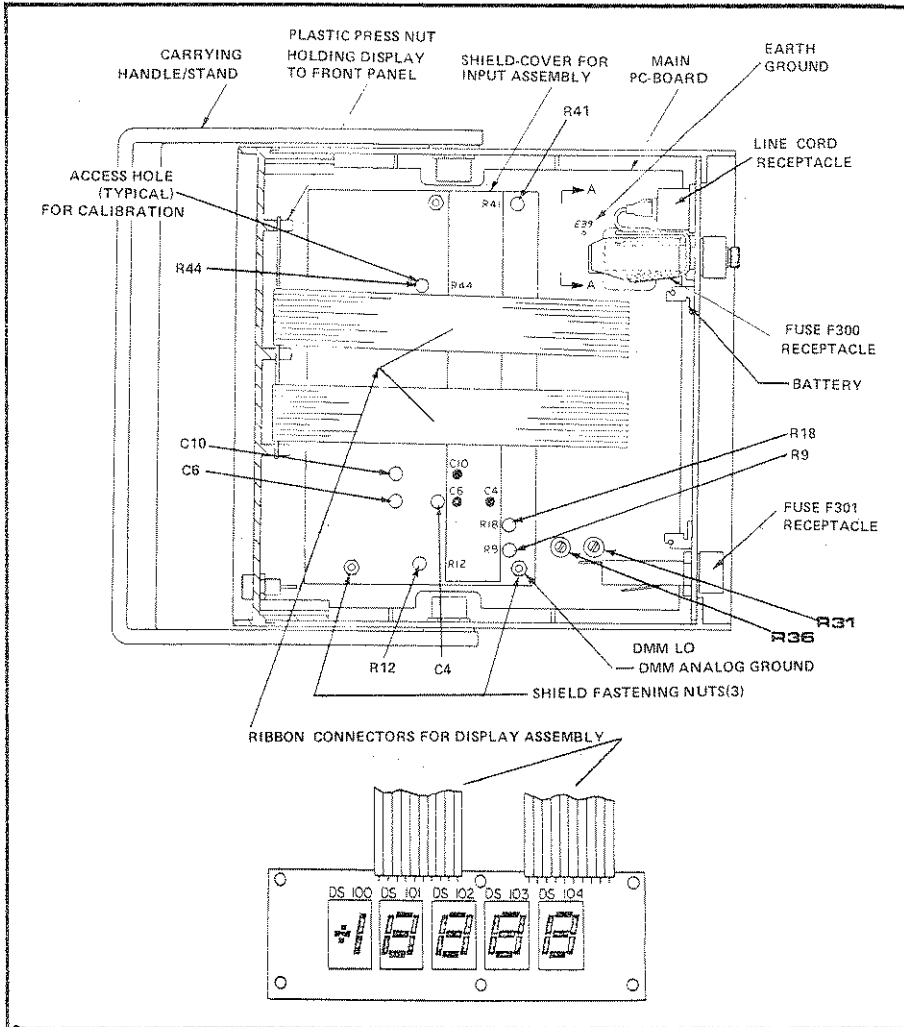

Figure 3-1
- (1) Remove top cover of case as described in paragraph 5.4. This will expose major assemblies as shown in Figure 3-1.
- (2) Remove the plastic push-nuts holding the display flex assembly to the front panel assembly.
- (3) Lift up display assembly. The ribbon connector cable may be bent back to permit access to components beneath the cable without having to unsolder the cable at the main board. This will also allow the display assembly to function during tests.
a. The adjustments to calibrate Model 2480/2480R DMM are accessible through access holes in the shield after removing the top cover of the case. Table 3-1 identifies the adjustments and their function. To remove the cover, remove the two top screws in the back plate, lift the top rearward from the front bezel, and slide out. Figure 3-1 indicates the major assemblies and points out the adjusting components listed in Table 3-1. Their reference designators are indicated on the top of the analog shield.